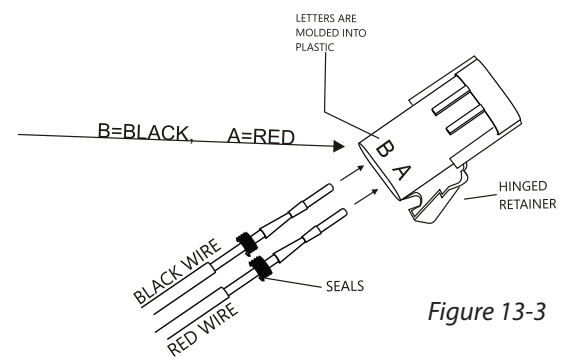

Figure 13-3
- Insert pins as shown. [Figure 13-3]